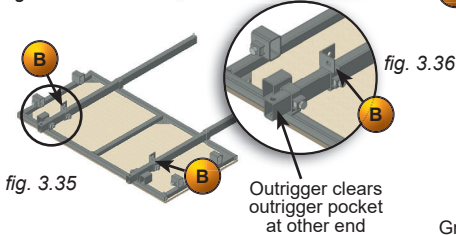

fig. 3.35
- B** 4- Slide a deck extension support pocket onto each outrigger (fig. 3.35). Do not tighten the bolts on the deck support pockets yet.